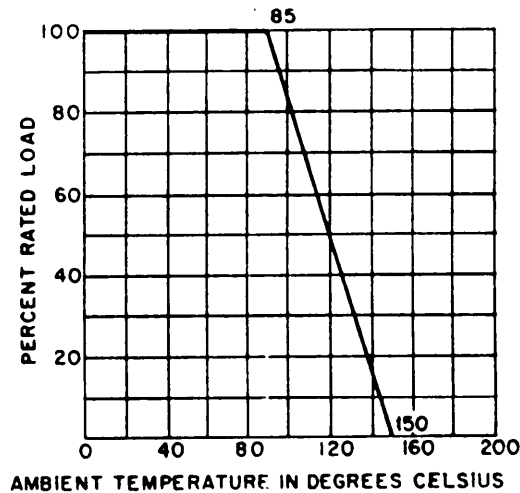

FIGURE 402-1. Derating curve for high-ambient temperature.
2.1.3 Power rating. These resistors have a power rating based on full-load operation at +85°C (when the maximum resistance is engaged). When the resistor is to be used in a circuit where the surrounding temperature is higher than +85°C, the wattage must be reduced so as not to overload the resistor. (See figure 402-1.)